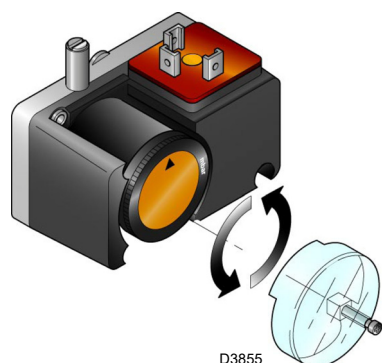

Fig. 41
- Adjust the minimum gas pressure switch (Fig. 41) to the start of the scale.
Adjust the minimum gas pressure switch (Fig. 41) after having adjusted the burner, the gas valves and the gas train stabiliser. With the burner operating at maximum output: